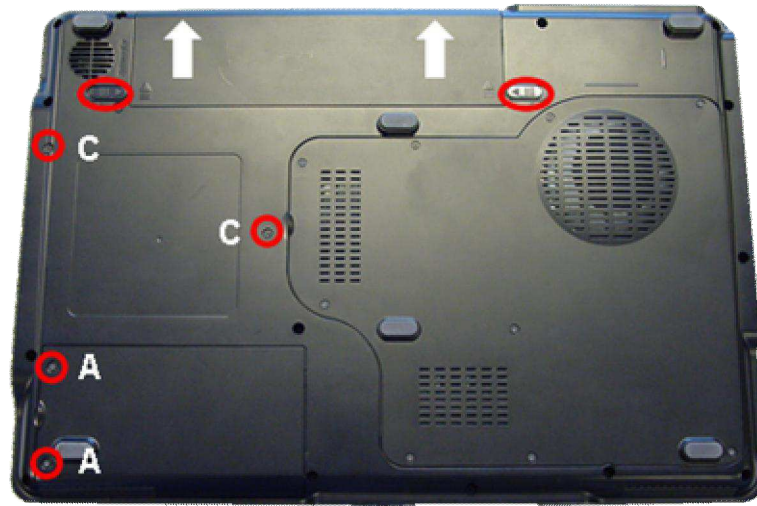

Fig. 1 The bottom base.
1. Remove two screws (2xA) from the HDD cover (as shown in Fig. 1).
1. Remove the screws (2xC) and cover (as shown in Fig. 1).